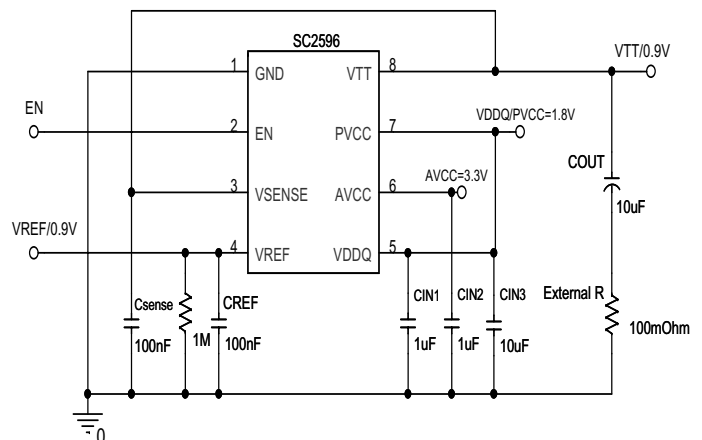

Figure 5: All ceramic capacitor configuration.
For some pure ceramic output capacitor designs, one needs to add small ESR in series with the output capacitor in order to enhance stability margin. For example, an 100mohm external ESR is suggested to help improve the phase margin for the circuit in Figure 5. Figure 6 shows the corresponding Bode plot.
**Application\_5: Bode Plot of an all ceramic capacitor solution in Figure 5.**